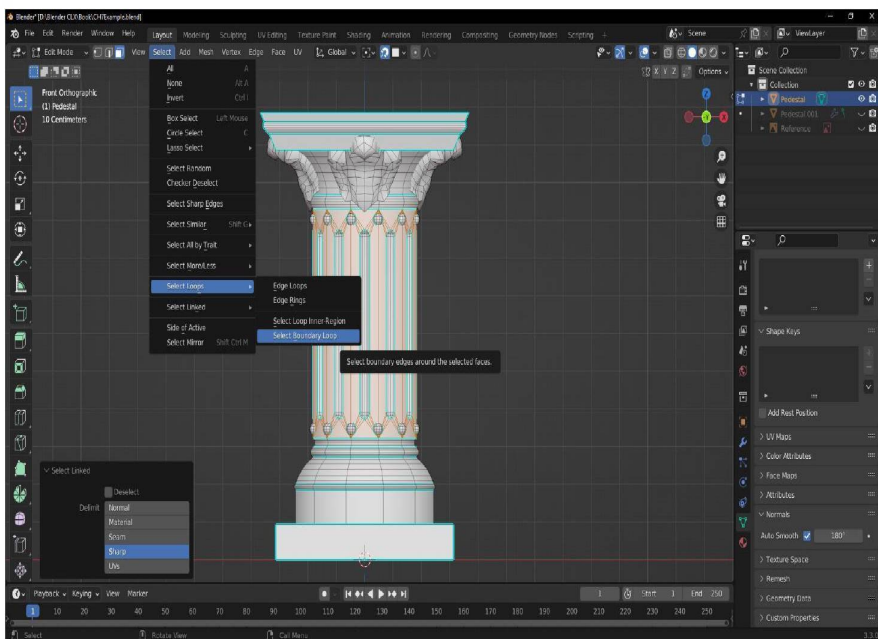

Figure 7.12: Body of the Pedestal's main column selected by Delimit method Sharp
3. In the **Face Select mode**, select the body of the main column via **Select Linked**, and change the **Delimit method** to **Sharp** as shown in *Figure 7.12* so that the fluting is deselected.
4. Next, under the **Select** menu, choose **Select Loops | Select Boundary Loops**, also shown in *Figure 7.12*: